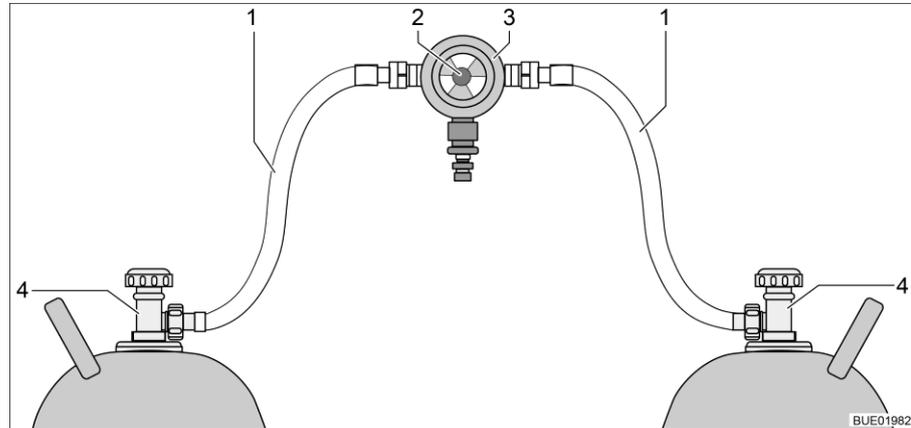
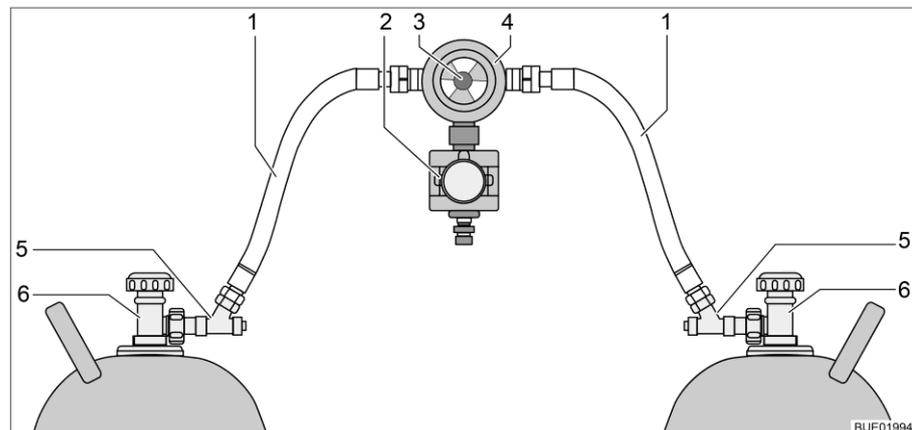

Fig. 63 Gas bottle switching facility
Fig. 64 Gas bottle switching facility with CPU
The gas bottle switching facility consists of a combined gas pressure regulator with reversing valve and indicator (Fig. 63,3). The gas bottle switching facility is installed between the two gas tubes (Fig. 63,1).
The gas bottle switching facility consists of a combined gas pressure regulator with reversing valve and indicator (Fig. 64,4), and an electrovalve (Fig. 64,2). The electrovalve blocks the gas supply to the vehicle in the event of a full braking, an accident, or an unusually great inclined position. The gas bottle switching facility is installed between the two gas tubes (Fig. 64,1) with hose break guards (Fig. 64,5).
**Function** The gas bottle switching facility ensures a constant gas pressure, regardless of which gas bottle is being drawn upon. The display in the reversing valve shows the filling level of the primary bottle. The gas supply comes from the primary bottle when the display is green. When the display is red the primary bottle is empty. In this case, the reserve bottle is used for the gas supply. Use the knob (Fig. 63,2 or Fig. 64,3) on the gas bottle switching facility to select which of the gas bottles is to be used as a primary bottle and which is to be used as a reserve bottle.
Only the electrical functions can be switched at the operating unit (Fig. 65). The regulator taps on the gas bottles (Fig. 63,4 or Fig. 64,6) must be opened and closed manually.
- Open the regulator taps of the gas bottles (Fig. 63,4 or Fig. 64,6).
- Press the hose break guards (Fig. 64,5) successively for 10 seconds.
- Use the knob (Fig. 63,2 or Fig. 64,3) on the switching facility to select the gas bottle which is to be the primary source of gas (primary bottle). Always turn the knob as far as it will go.
- Close the regulator taps of the gas bottles (Fig. 63,4 or Fig. 64,6).